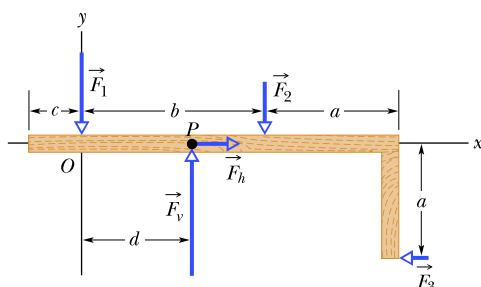

Figure 12.19 Problem 15.
**15 E** Forces  $\vec{F}_1$ ,  $\vec{F}_2$ , and  $\vec{F}_3$  act on the structure of Fig. 12.19, shown in an overhead view. We wish to put the structure in equilibrium by applying a fourth force, at a point such as *P*. The fourth force has vector components  $\vec{F}_h$  and  $\vec{F}_v$ . We are given that  $a = 2.0 \text{ m}$ ,  $b = 3.0 \text{ m}$ ,  $c = 1.0 \text{ m}$ ,  $F_1 = 20 \text{ N}$ ,  $F_2 = 10 \text{ N}$ , and  $F_3 = 5.0 \text{ N}$ . Find (a)  $F_h$ , (b)  $F_v$ , and (c)  $d$ .